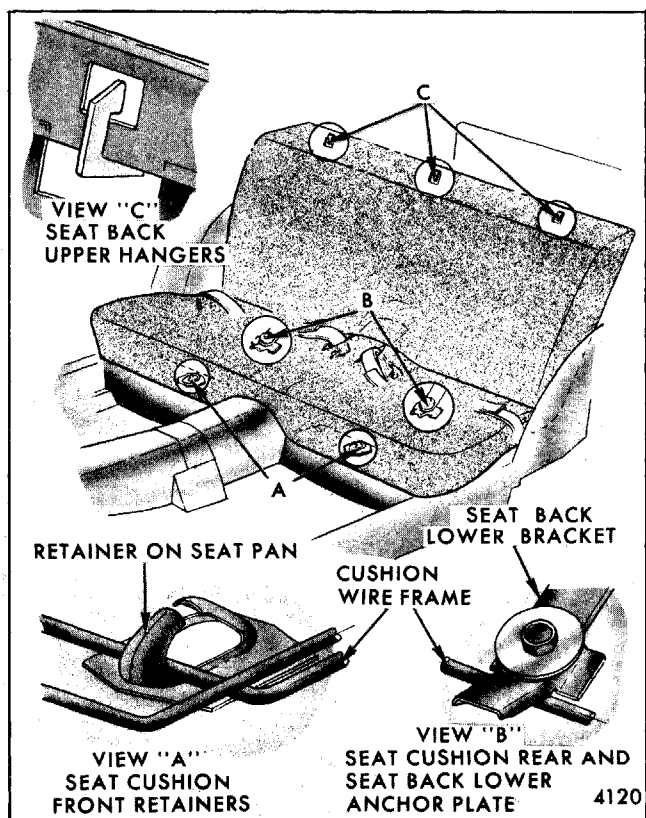

Fig. 9-66-Rear Seat Cushion and Seat Back - "H-11-27"
1. To remove rear seat cushion, push front of seat rearward and lift upward to disengage cushion frame wire from retainer on floor pan; then pull toward front of body until cushion frame rear wires disengage from under rear retainers on floor pan (Fig. 9-66). Disengage seat belts from seat belt retainers and lift cushion from body.